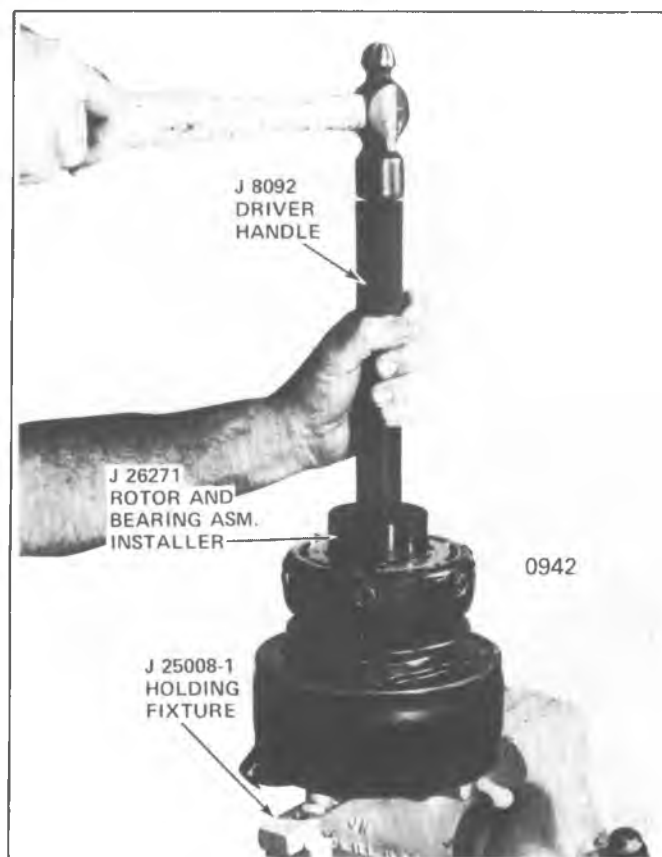

Figure 1D-88 Installing R-4 Rotor and Bearing Assembly (On Bench)
8. Tighten pulley rim mounting screws to 100 inch-pounds torque and lock screw heads in place by bending special lock washers (Figure 1D-88).